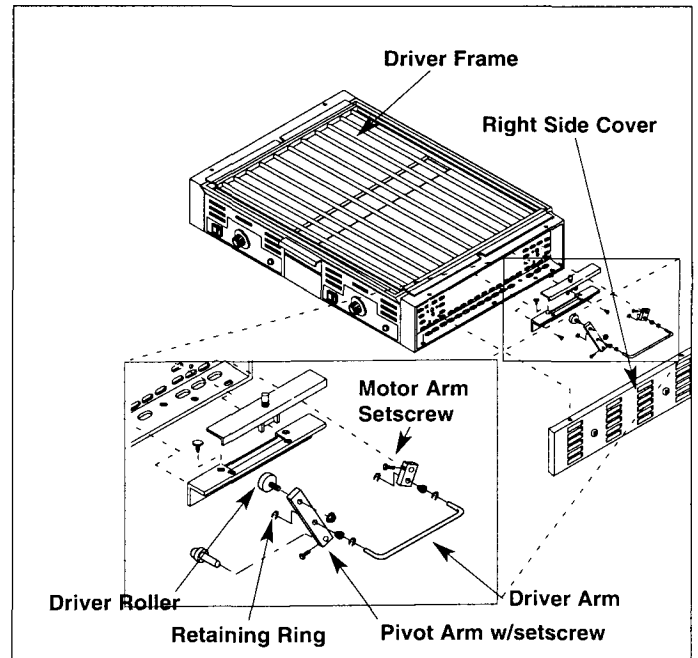

Figure 4. Drive Components
4. To remove any gap, loosen the setscrews on the pivot arm and motor arm (Figure 4).